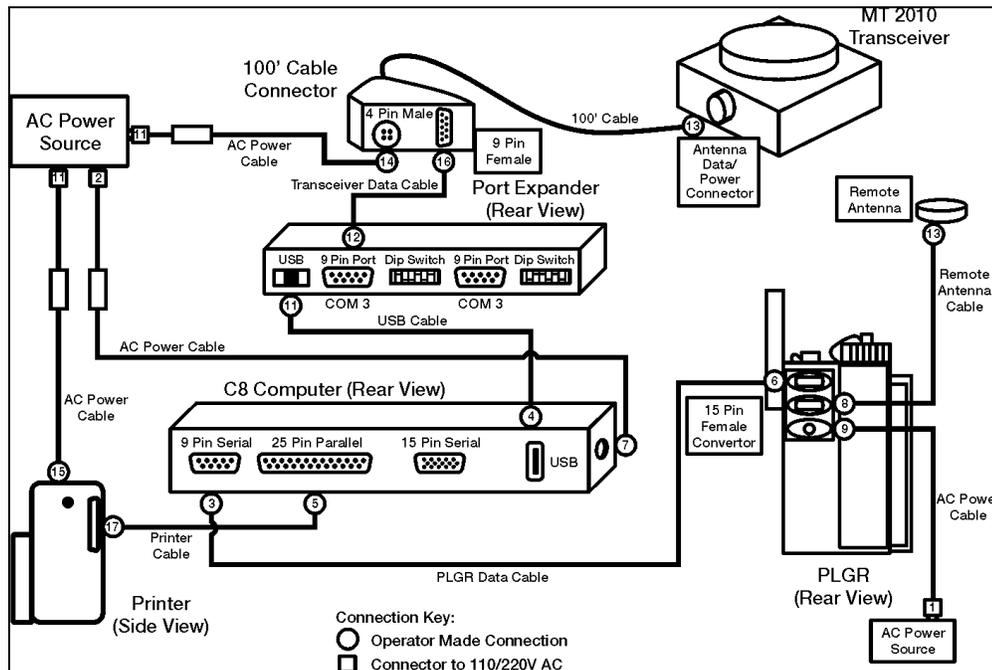

Figure 3-88. Control Station Connection Diagram
- a. Transceiver (MT2010) installation and MTS Control Station Connections (see Figure 3-88).
- (1) Place the MT 2010 (TERM 001) in a location with a clear view of the sky, avoiding blockage or shadowing from trees and buildings.
- (2) Connect the 100-foot power/data cable (CS-04B) from the control box to the side of the transceiver.
- (1) Connect the 9-pin female RS232 port connector of the PLGR cable to COM1 port on the laptop computer. COM1 is the only RS232 on the laptop. Figure 3-88 shows the two connectors on a standard PLGR cable.
- (2) Connect the 15-pin female connector of the PLGR cable to the top port of the PLGR. All ports on the PLGR can be found on the back of the device.
- (3) Connect the remote PLGR antenna cable to the second port of the PLGR. Connect the remote PLGR "hockey puck" antenna to the antenna cable.
- (4) Connect PLGR AC power adapter cable to the third PLGR port. Plug the PLGR power supply into the wall outlet making sure the voltage selector is in the proper position (110/220) (see Figure 3-88, MTS CS PLGR Cable Setup).